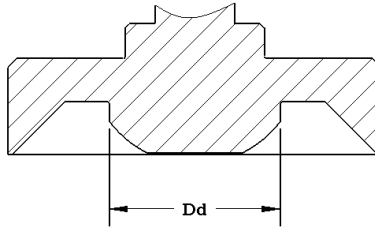

Figure 43: Critical Disk Dimension
4. Referring to Figure 43, measure the diameter, D_d . This diameter must be within the range of values listed in Table 4.